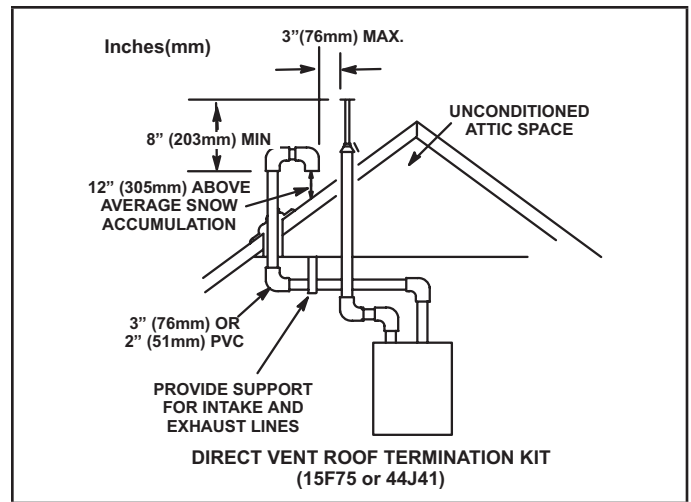

Figure 35
Intake and exhaust pipes may be routed either horizontally through an outside wall or vertically through the roof. In attic or closet installations, vertical termination through the roof is preferred. Figures 35 through 42 show typical terminations.
- 3 - On roof terminations, the intake piping should terminate straight down using two 90° elbows (See figure 35).